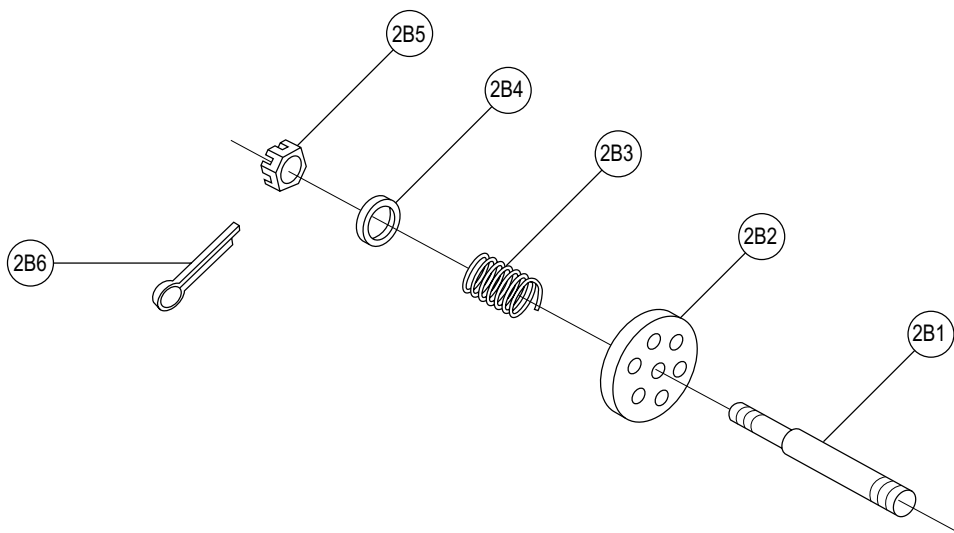

Figure 4.16
1. Disassemble/Build the shaft subassembly in the order shown by the Shaft Subassembly Diagram (Figure 4.16).